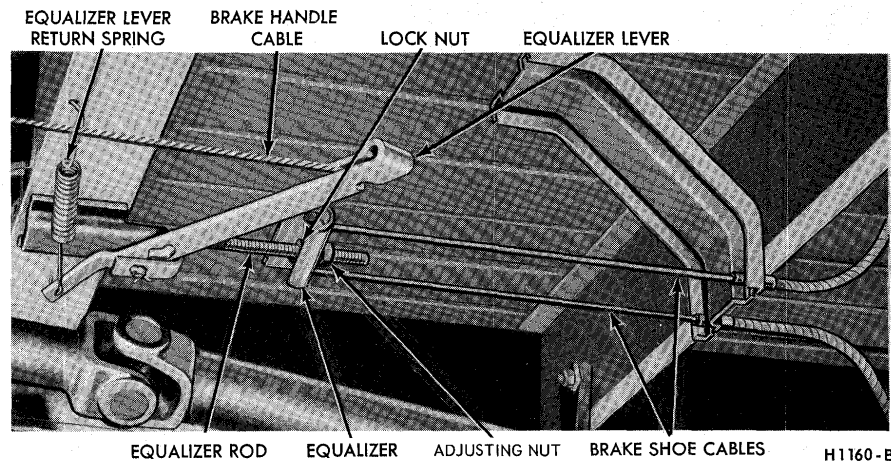

FIG. 13—Parking Brake Linkage
1. Push the equalizer lever slightly forward, and disconnect the ball end of the cable from the lever (Fig. 13).
3. Push the equalizer lever slightly forward, and insert the ball end of the cable in the slot on the equalizer lever (Fig. 13).
3. Loosen the adjusting nut on the equalizer rod, and disconnect the cable from the equalizer (Fig. 13).
4. Remove the hair pin retainer that holds the cable housing to the bracket on the crossmember and pull the cable and housing out of the bracket (Fig. 13).
3. Thread the front end of the cable housing through the frame bracket and install the hair pin retainer (Fig. 13).
5. Insert the ball end of the cable into the equalizer and tighten the adjusting nut on the equalizer rod slightly (Fig. 13).